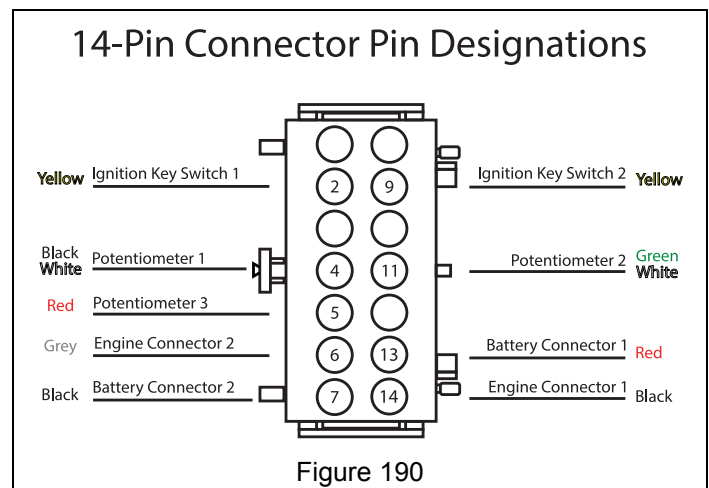
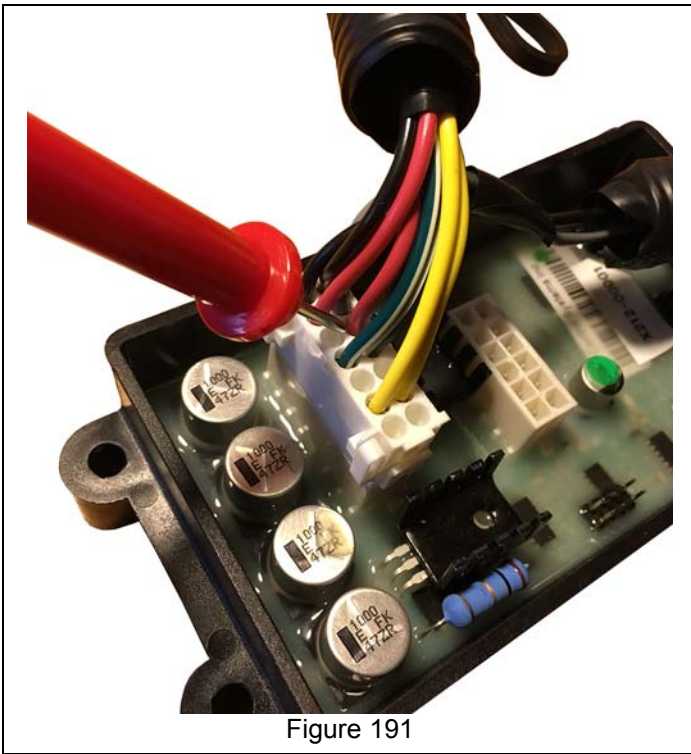

Figure 190
Figure 191
1. Set a multi-meter to ohms (Ω) and measure the potentiometer resistance. See Figure 190 and Figure 191.
- b. Position the red probe on the terminal of the red wire at the potentiometer (Pin 5 in Figure 190) and the black probe on the terminal of the green / white wire.
- b. Position the red probe on the terminal of the red wire at the potentiometer (Pin 5 in Figure 190). Also see Figure 191.